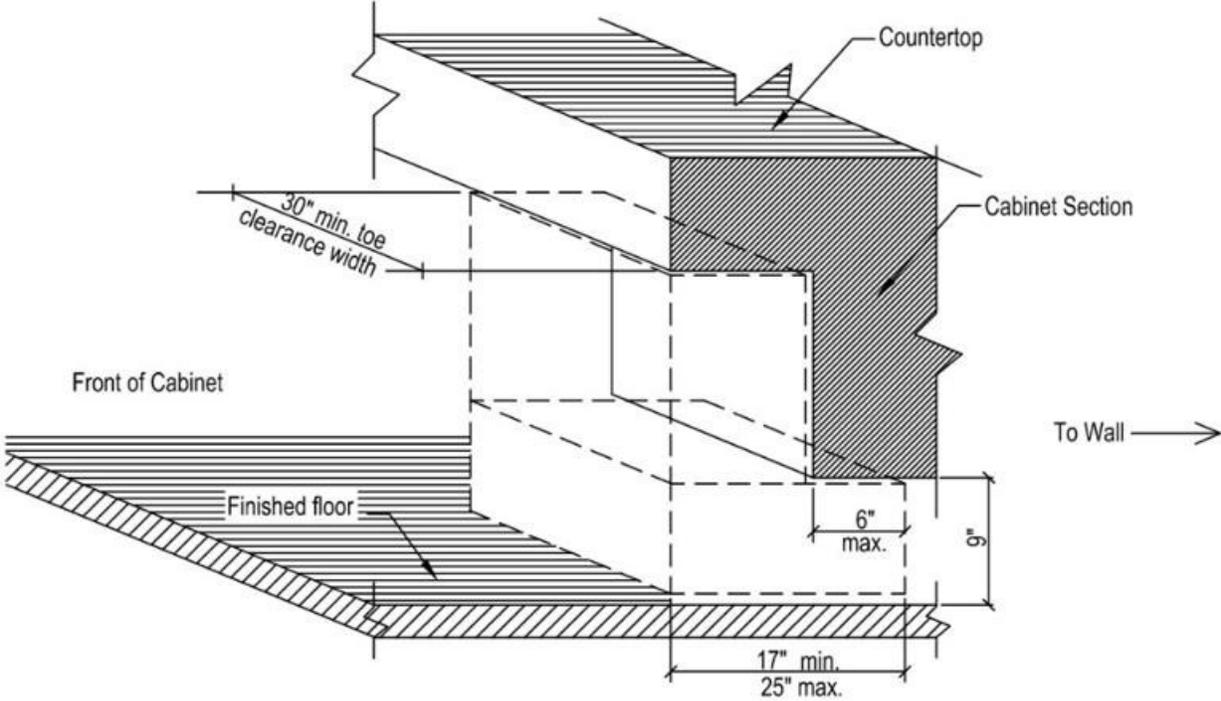

Figure 1: Toe Clearance
- An adjustable or replaceable 30 inches wide work surface at variable heights between 29 inches and 36 inches or fixed at 34 inches' maximum with toe and knee clearance, as depicted by Figures 1 and 2, shall be provided. (ICC 1003.12.3.2) A clear floor space positioned for forward approach and centered on space must be provided for the work surface. Cabinetry is permitted under the work surface, provided the cabinet can be removed without removal or replacement of the work surface, the floor finish extends under such cabinet, and the walls behind and surrounding the cabinet are finished.
- A 30-inch by 48-inch clear floor space centered on sink and positioned for forward approach shall be provided. Cabinetry can be added, provided it can be removed without removal or replacement of the counter, the floor finish extends under the cabinet, and the walls behind and surrounding the cabinet are finished. (ICC 1003.12.4.1) Toe and knee clearances shall be provided per Figures 1 and 2. (ICC 306)